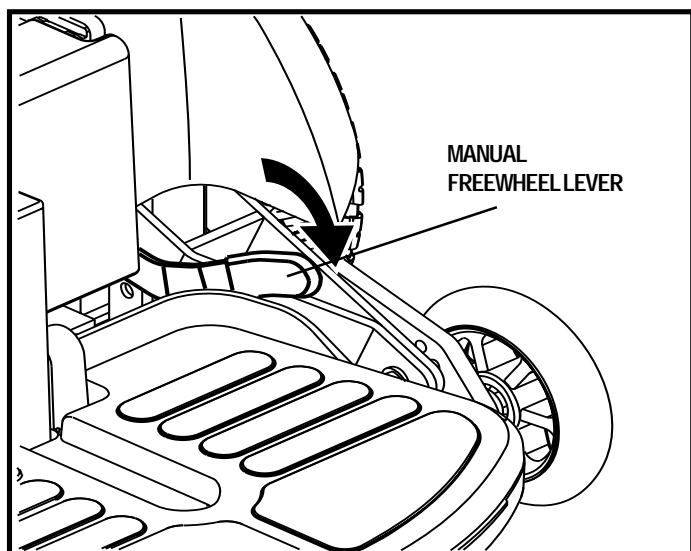

Figure 8. Drive Mode (Drive Engaged)
For convenience, your power chair is equipped with two manual freewheel levers—one for each motor. See figures 8 and 9. These levers allow you to disengage the drive motors from the gearboxes and maneuver the chair manually. This is called freewheel mode.
2. Push the levers down to engage the drive motors (drive mode). See figure 8.